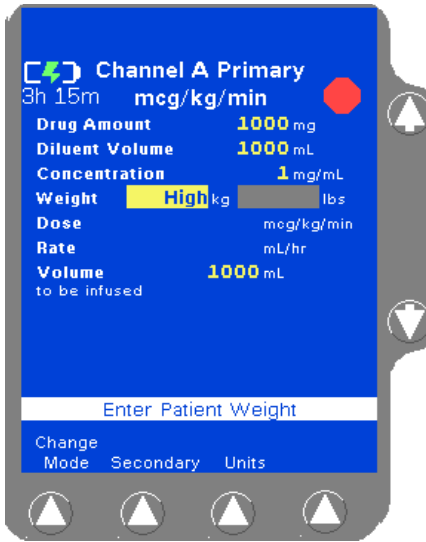

Figure 4-65 Example of Out-of-Range Weights
- If the weight is outside the allowed weight limits, the word **Low** or **High** is displayed (Figure 4-65). Select a weight within limits.